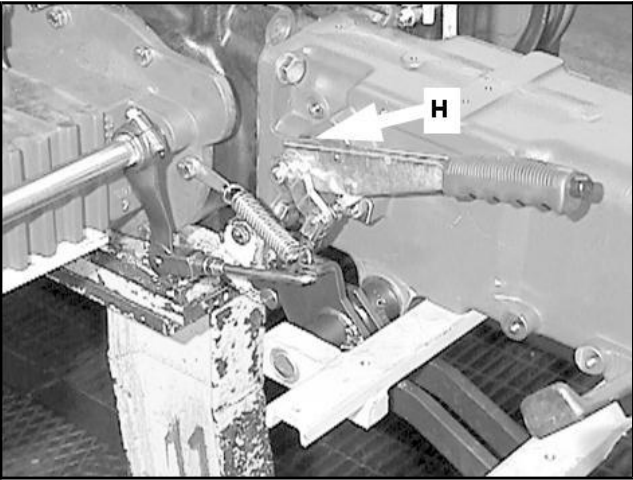

Fig.3
- adjust the lenght of the rod by unscrewing or tightening nut **H** (Fig. 3)